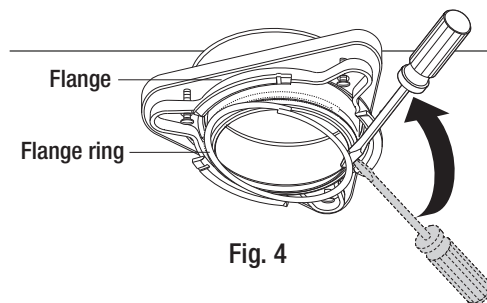

Fig. 4
- To remove the remaining mounting system from the sink, loosen the mounting screws and push the mounting ring up to reveal the flange ring. Use a screwdriver to pop off the ring (see Fig. 4). Remove the loose components from the sink flange. Some mountings will require the unscrewing of a large ring holding the sink flange in place. Pull the sink flange up through the sink and clean off the old putty from the sink.